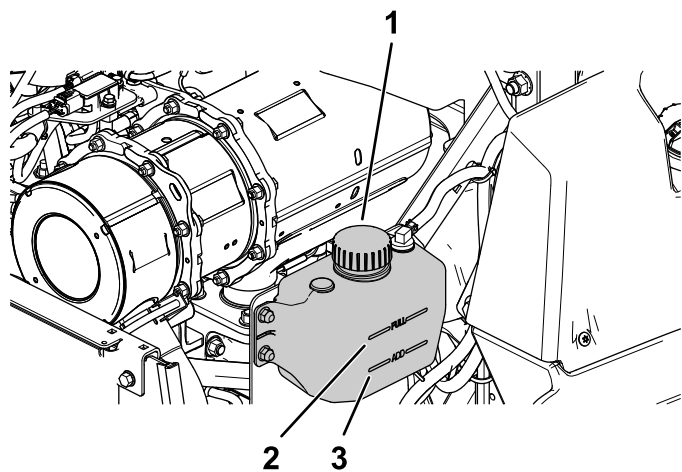

Figure 56
2. Check the level of the coolant in the expansion tank (Figure 56).
3. If coolant level is low, remove the expansion-tank cap, and add the specified coolant (Figure 56).